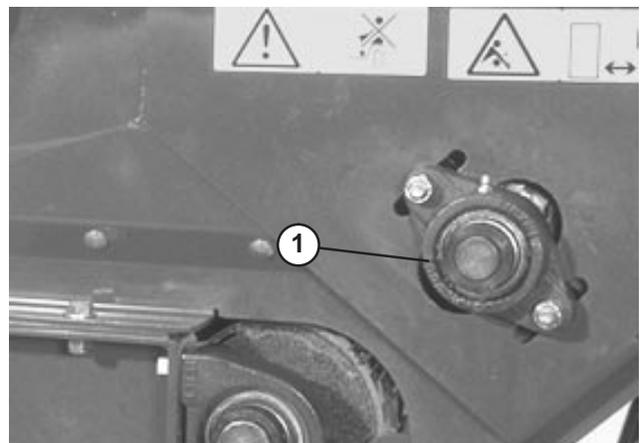

Figure 19
1. Loosen nuts securing bearing housing (Fig. 19) to right side of machine.